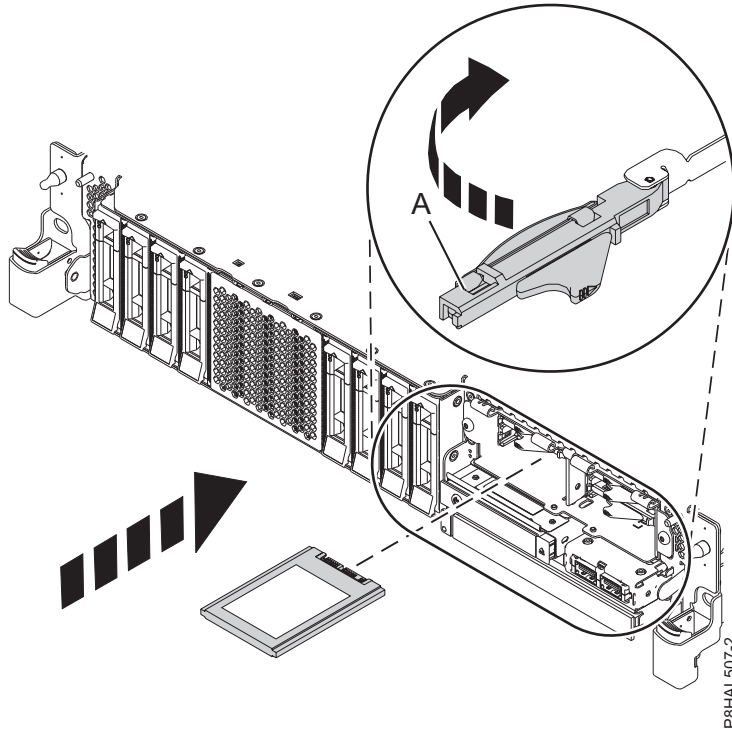

Figure 56. Replacing an SSD in an expanded function system
12. With the SSD drive bay handle (A) in the unlocked position, pull the lever outward to gain access to the guide rails in the SSD slot. Support the bottom of the SSD as you align it with the guide rails in the SSD slot. See Figure 56 on page 57.
16. Lock the drive by rotating the bay handle (A) in the direction that is shown in Figure 56 on page 57.